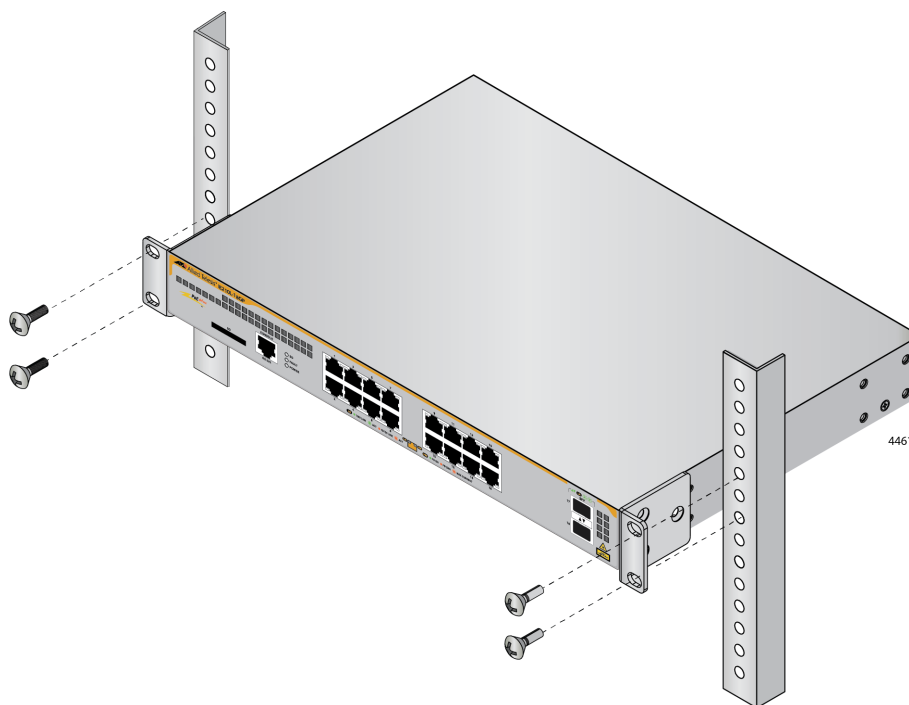

Figure 15. Mount AT-IE210L-18GP Switch in Equipment Rack
2. Mount the switch in a 19-inch equipment rack using four equipment rack screws (supplied with the equipment rack) (Figure 15).